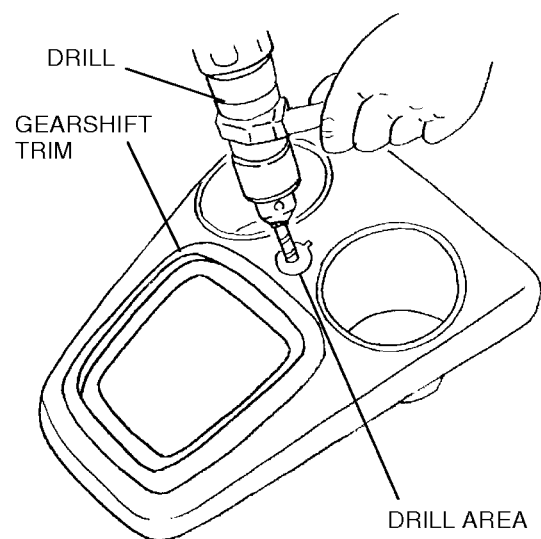

FIGURE 14
4. Drill a hole in the marked area and expand the hole with a round file or similar tool to match the marked size (refer to Figure 14).